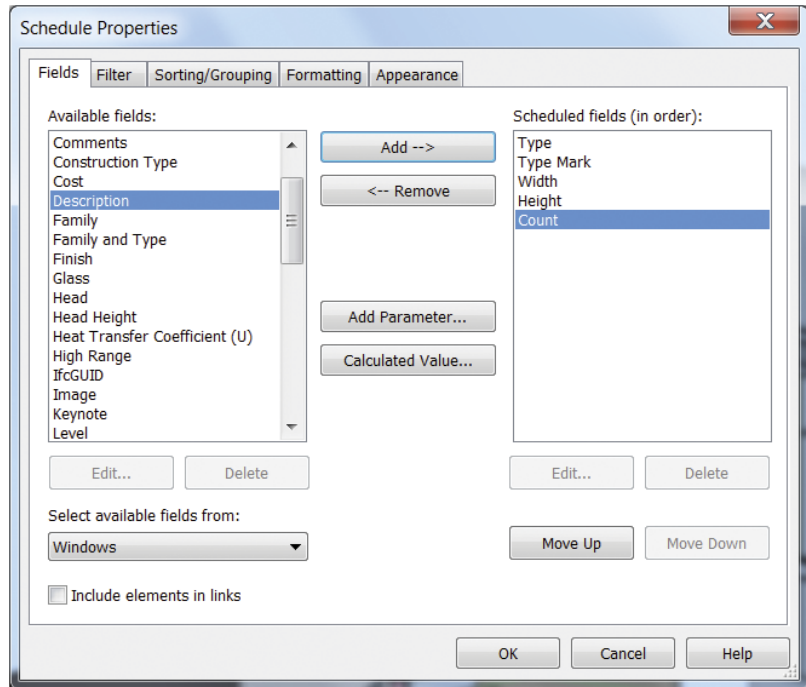

FIGURE 12.2 Scheduled Fields
4. You should find yourself in the Fields tab of the Schedule Properties dialog. Choose the following properties from the Available fields column; then click the Add button. The properties should now be listed in the Scheduled fields column, as shown in Figure 12.2. If the order of the fields is incorrect, you can use the Move Up and Move Down buttons to reorder.